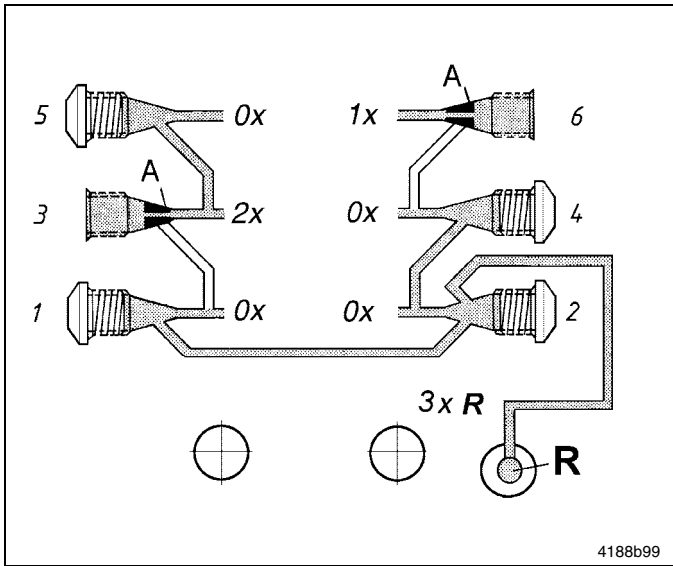

Fig. 4 Internal feedback of supplied lubricant, only on rear-side mounted SSV divider blocks
- All pumps with **back-mounted SSV divider block** have the capability to feed back unused lubricant internally from closed outlets directly to the reservoir (see R fig. 4, 5).
- Start from the smallest outlet number when closing the outlets, for instance 2, 4, 6 on even side or 1, 3, 5 on odd side plus outlet 2. In fig. 4 the quantities of outlets 1, 2 and 4 (3xR) are fed back to the reservoir.